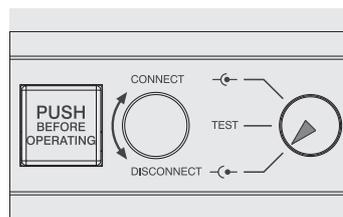

Figure 96
- circuit breaker in DISCONNECT position (see Figure 96)